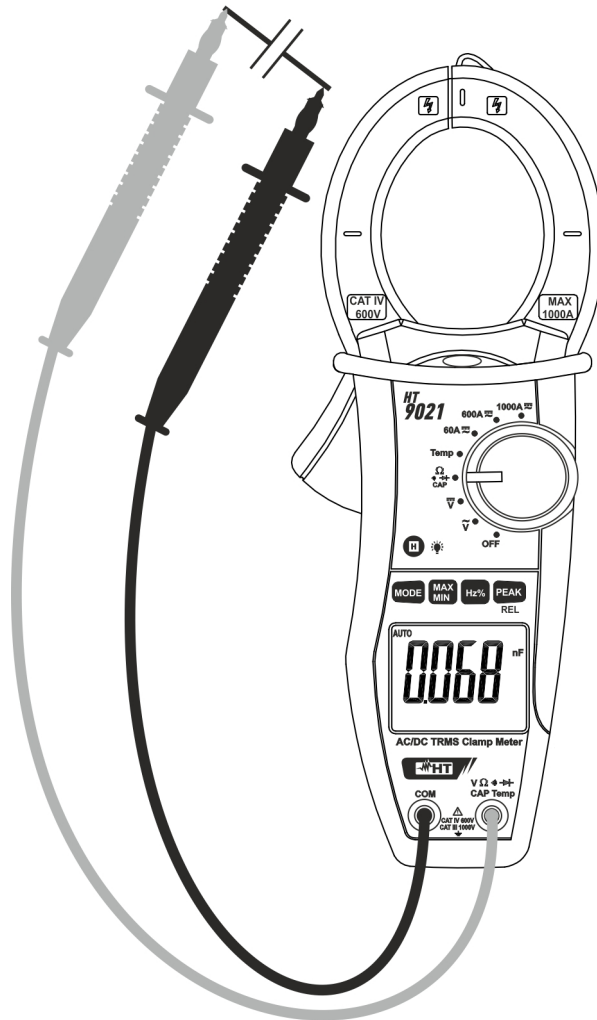

Fig. 7: Taking Capacitance measurement
3. Insert the red test lead plug into $V\Omega \rightarrow$ **CAP Temp** jack and the black test lead plug into **COM** jack (Fig. 7)